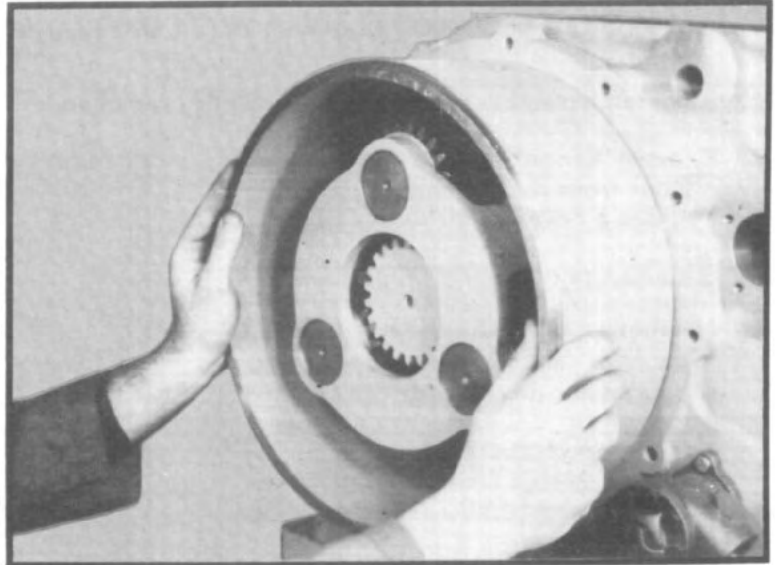

Fig. 63
3.9 Tap planetary housing to loosen and remove. (See fig. 63.)